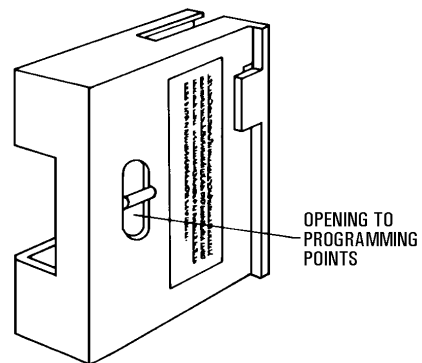

Figure 1
1. Locate the opening on the MSI cover that allows access to the programming points on the MSI printed circuit board. (Refer to Figure 1.)